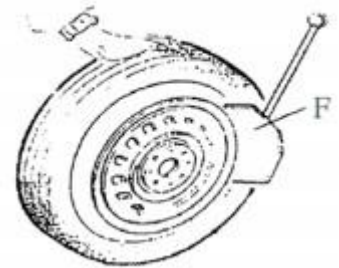

Fig 5
Ensure to exhaust the air in the tyre completely, place the tyre against the rubber buffer (S). Bring the shovel (F) against the bead about 10mm from the edge of the rim shown as Fig 5. Depress Bead breaker Pedal (U) to push paddle into tyre. Repeat the above operations on different positions around the tyre and both sides of tyre until tyre bead is released completely.